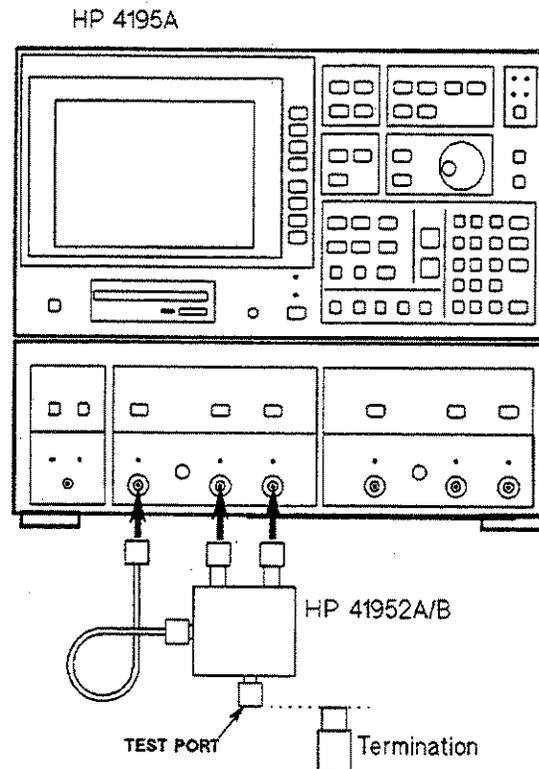

Figure 3-2. Operator's Check Setup
1. Connect the HP 41952A/B to the network analyzer as shown in Figure 3-2. Do not connect the termination to the **TEST PORT** connector of the HP 41952A/B.